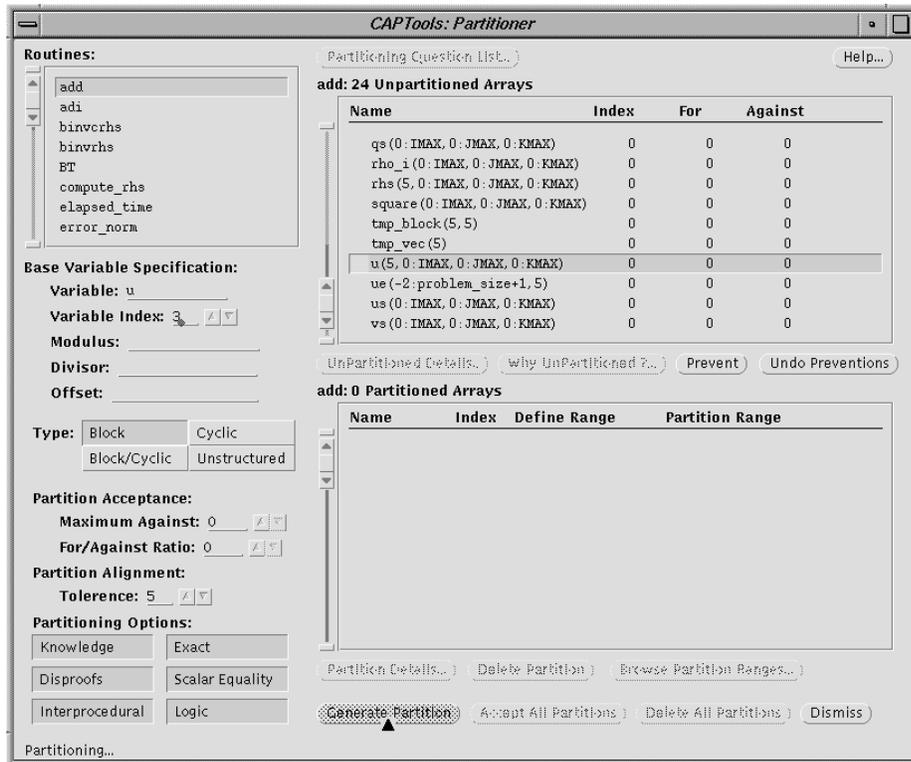
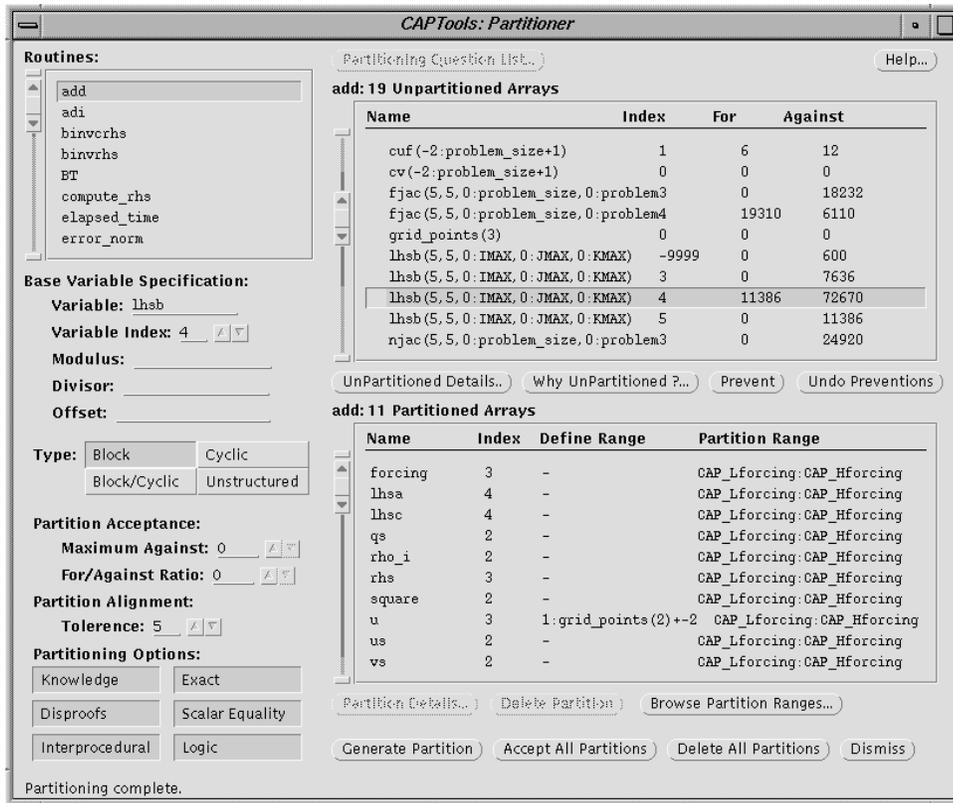

Figure T5-2: The Partitioner window for array partitioning: routine add, array u, index 3.
Figure T5-3: Apply array partitioning on the second array: *lhsb*, index 4.
- 4. Partition data.** Launch the **Partitioner** from the CAPTools main window. Choose routine "add", array "u" and index "3" (see Figure T5-2) and click **Generate Partition**. This step creates a data distribution for array "u" on the 3rd index (the J dimension) and CAPTools also partitions automatically the relevant arrays throughout the program. Figure T5-3 shows the partitioning window after the process is finished. You will notice that array "l_{hsb}" was left untouched. The next thing to do is to select this array, index 4 and perform another partitioning.